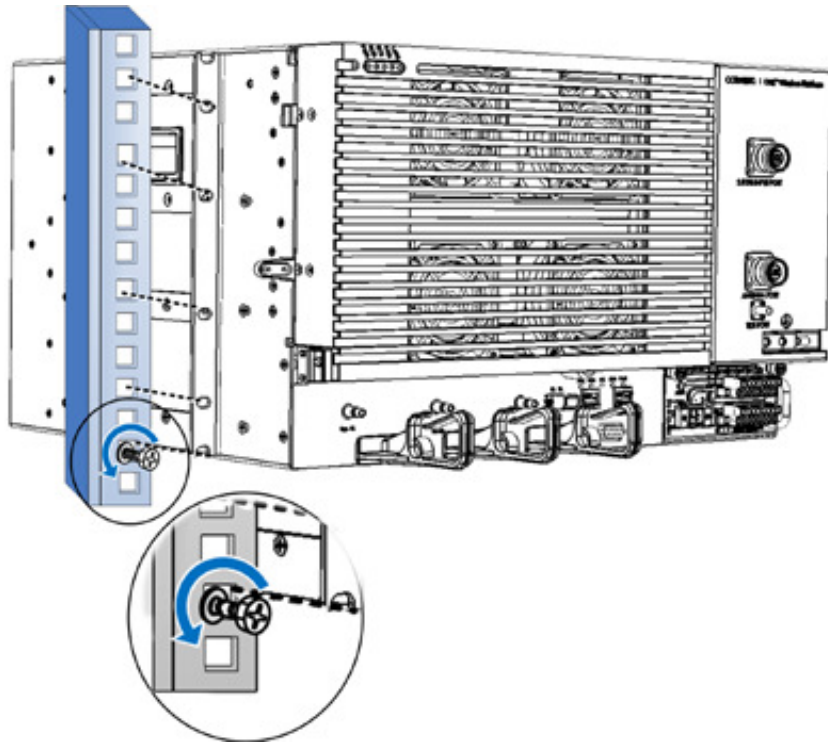

Figure 6-1 Example of MRU Chassis Rack Installation
1. Referring to Figure 6-1, secure the units' rack ears to the rack frame as follows: